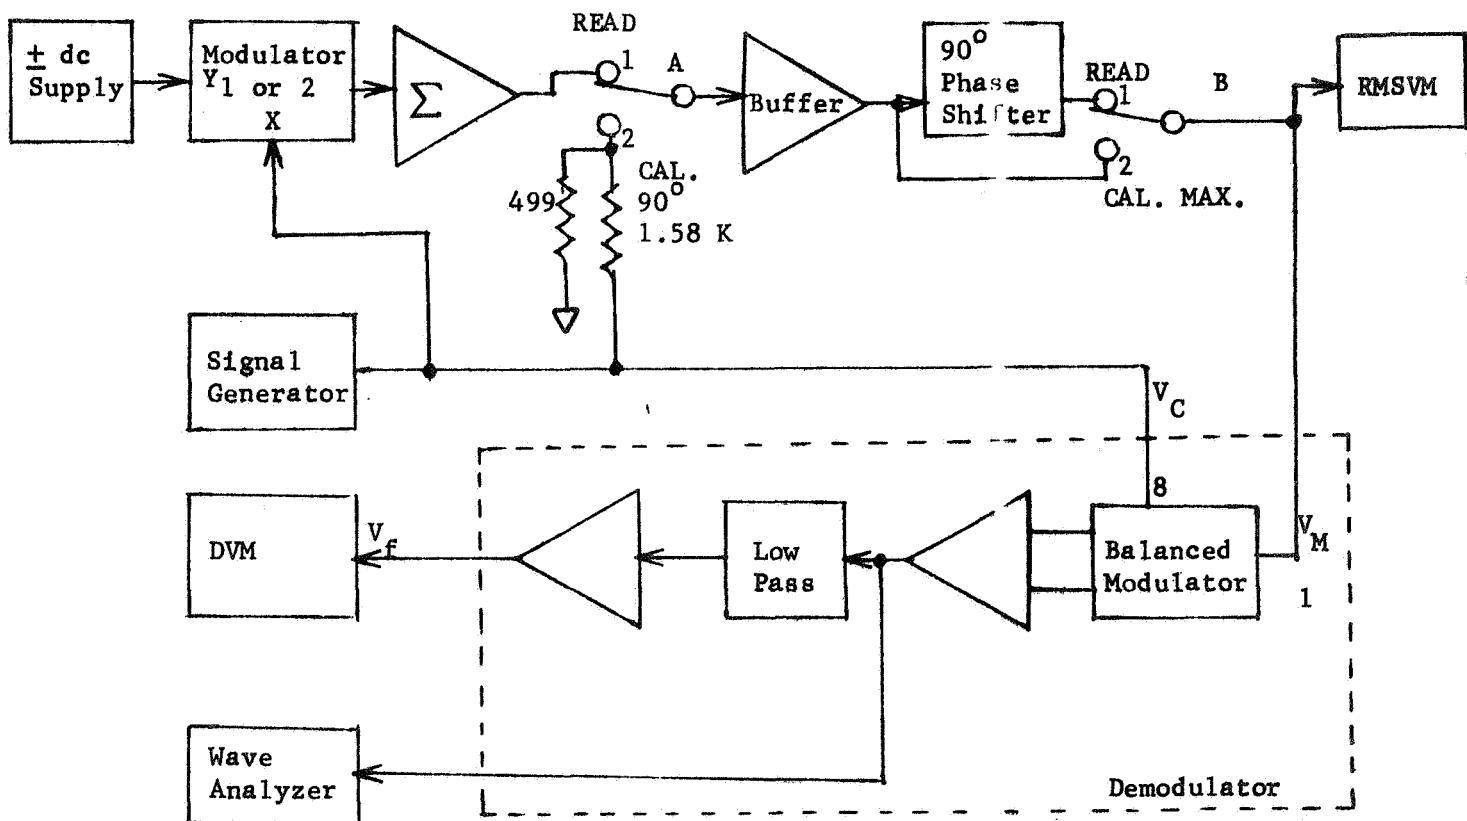

Figure 2.5
- A. Use test setup as shown in Figure 2.5 with the signal connected to the input of modulator 1.